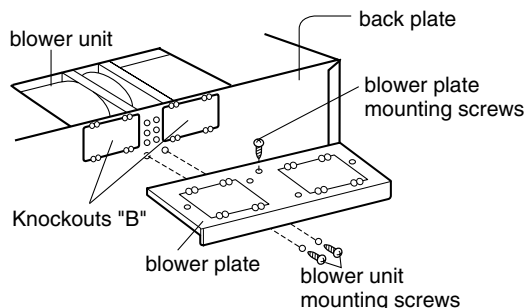

Figure 12
1. Remove two blower unit mounting screws and one or two blower plate screws. Remove the blower plate from cabinet. See **Figure 12**.